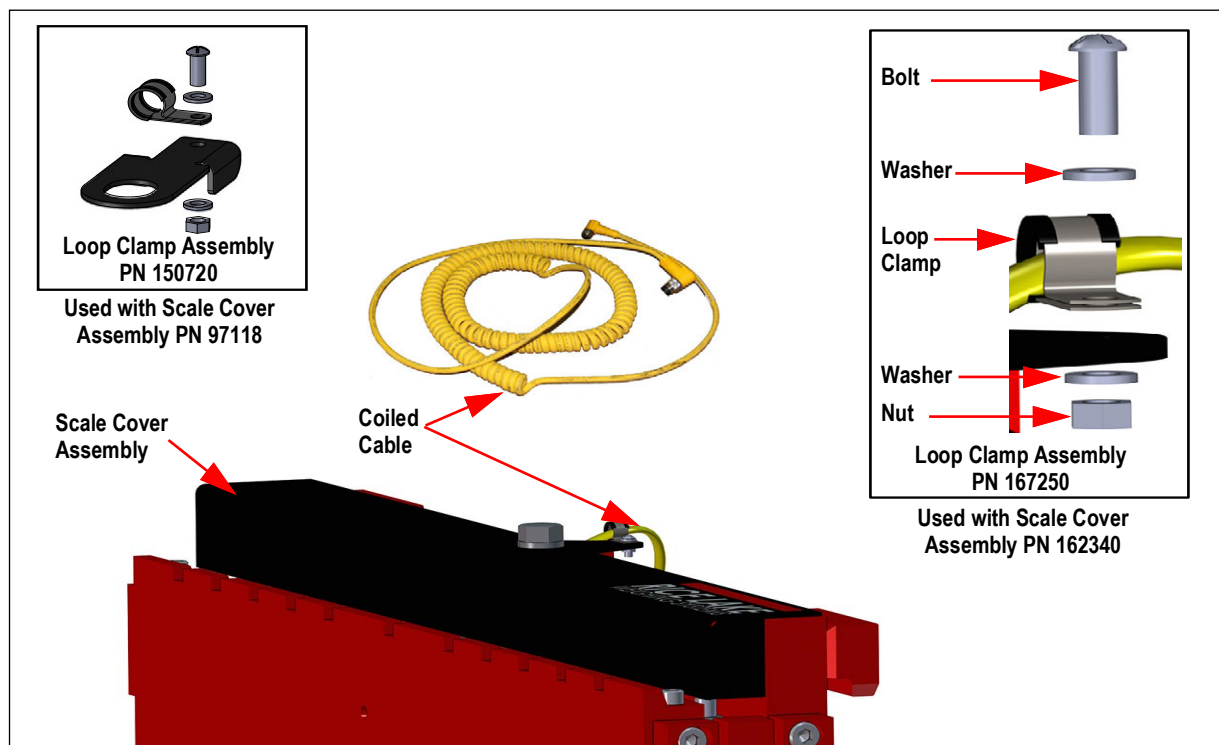

Figure 2-7. Connecting The Coiled Cable
4. Push the coiled interface cable through the hole in the scale and connect it to the j-box (Figure 2-7).